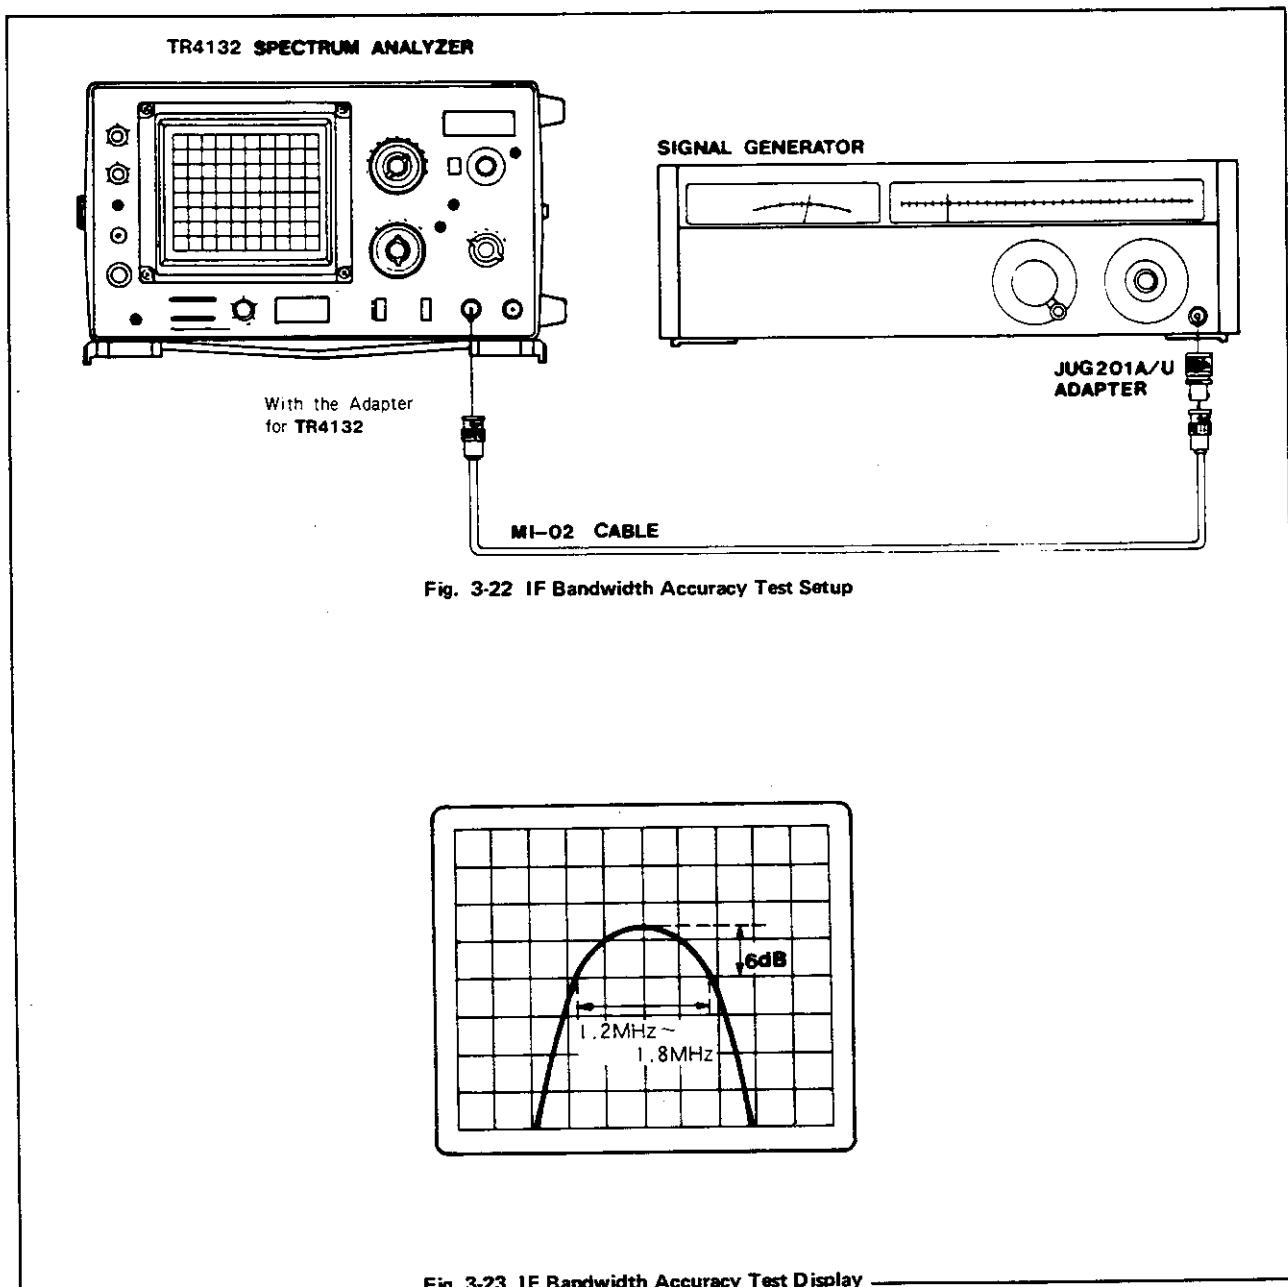

Fig. 3-23 IF Bandwidth Accuracy Test Display
- (1) Connect the Signal Generator output signal (100MHz/96dB $\mu$  approx.) to INPUT of the instrument.
- (2) Set B.W. (6dB) to 1.5MHz and DISPERSION/DIV. to 0.5MHz/DIV. respectively, Set 10dB/DIV., 5dB/DIV., LINEAR to 5dB/DIV.
- (3) Adjust the Signal Generator output level so that the signal peak on the CRT display comes to 6dB above the horizontal center. [Fig. 3-23]
- (4) Check that the frequency difference between two points where the signal crosses the horizontal center line is in the range from 1.2MHz to 1.8MHz.
- (5) Reset B.W. (6dB) to 120kHz and DISPERSION/DIV. to 0.1MHz/DIV. Proceed the same test as in (3) and (4) above and check that the frequency difference is within 96kHz to 144kHz.